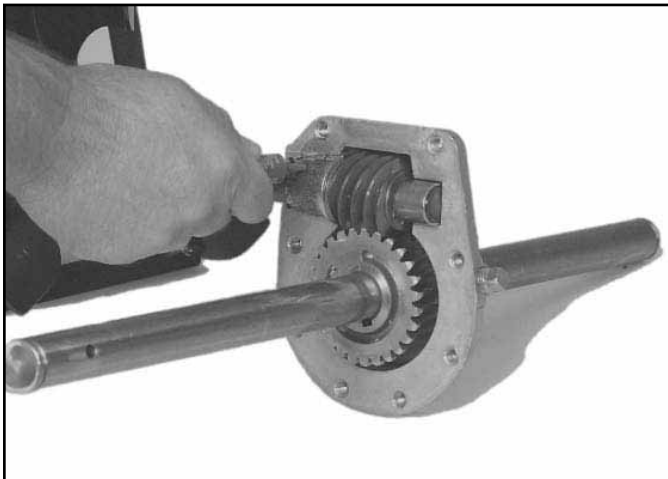

Fig 096
6. Apply a VERY light coat of Loctite Blue # 242 or equivalent to the outer diameter of the bearing. The Loctite should not squeeze out when everything is tightened or you used too much (Fig. 096).